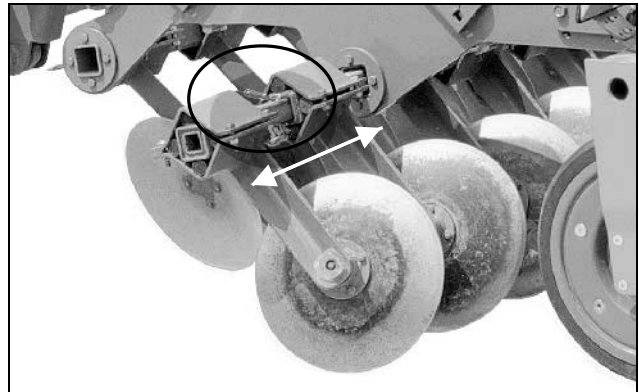

Fig. 31
- Bring side discs (Fig. 31) into operational position:
- Bring the side discs (Fig. 31) into operational position: